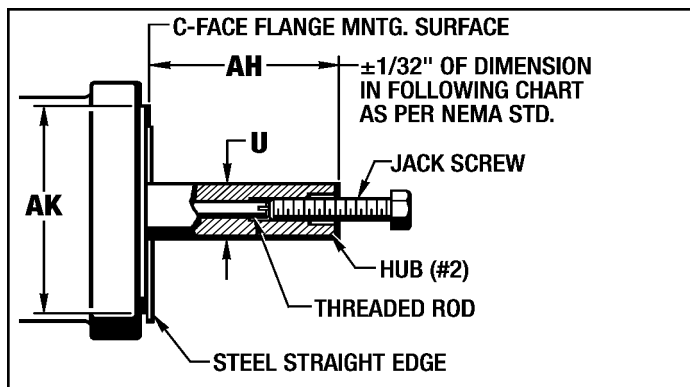

Figure 9.12 - Final Positioning of the Hub (#2)
4. Measure the end of the extended shaft of the Hub (#2) to the C-Face Flange Face of the End Housing (#9) as shown in Figure 9.12.